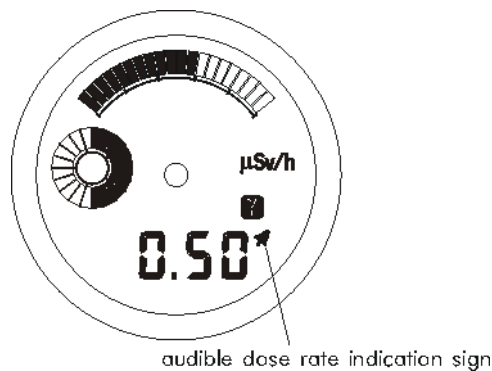

Fig.3.2
- long pressing of button 1 (MODE) in any of the above mentioned modes changes the indication of values according to the rotation described in clause 3.2.2, the corresponding sign  will be displayed that shows that the mode of DER audible indication is ON (Fig. 3.2).